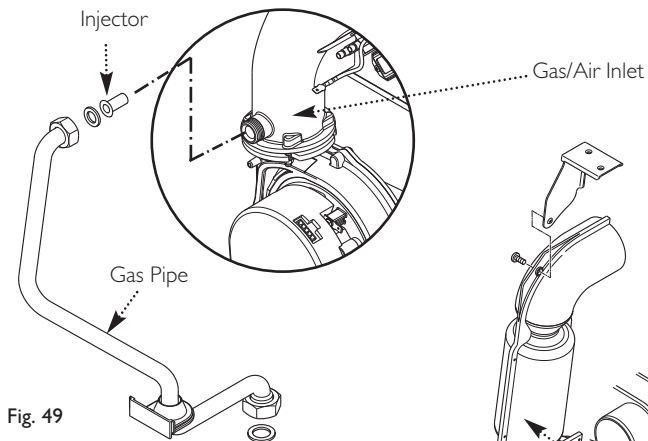

Fig. 49
6. Undo the nut on the gas pipe at the gas/air inlet (Fig. 49) and the gas valve. Remove the pipe, taking care not to lose the sealing washers. Also remove the injector.